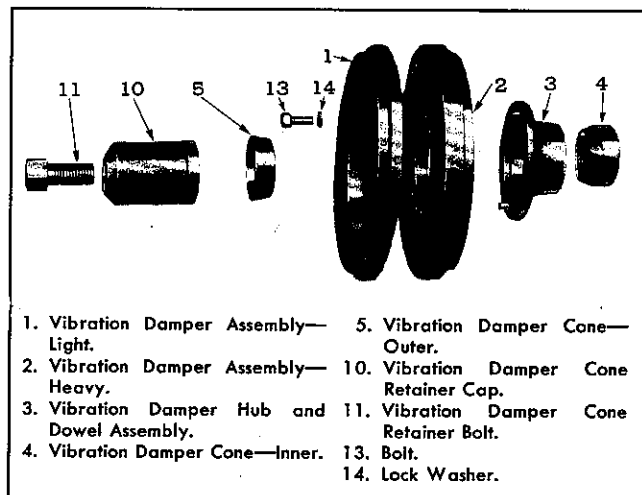

Fig. 11—Vibration Damper Details and Relative Location of Parts.
**Install Vibration Damper on Crankshaft**—Before installing vibration damper, refer to Fig. 11, for relative location of the parts, and assemble as follows: